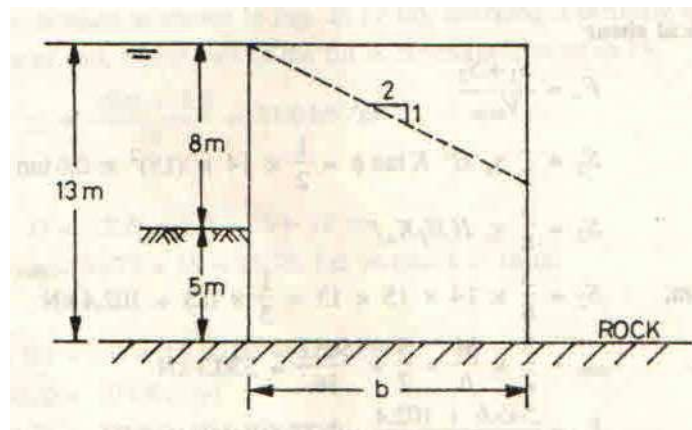

Fig. Q.4.b.
- (b) Check the stability of circular cellular coffer dam shown in Fig. Q.4.b. against sliding and overturning. Take $\gamma = 18 \text{ kN/m}^3$, $\phi = 30^\circ$, $\delta = 25^\circ$, $K = 0.6$, $f = 0.3$, $T_{\text{all}} = 1500 \text{ kN/m}$. The diameter of the main cell is 15 m. 7 M